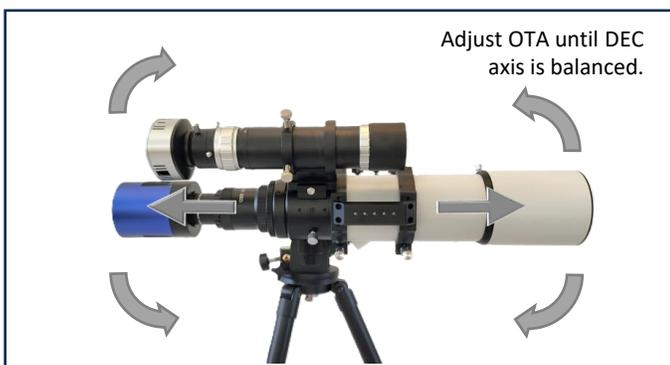

Fig. 2.27
- 3. Find Imbalance:** Determine which way the OTA wants to rotate around the Dec axis. See Fig. 2.27. Then relock the dec axis.